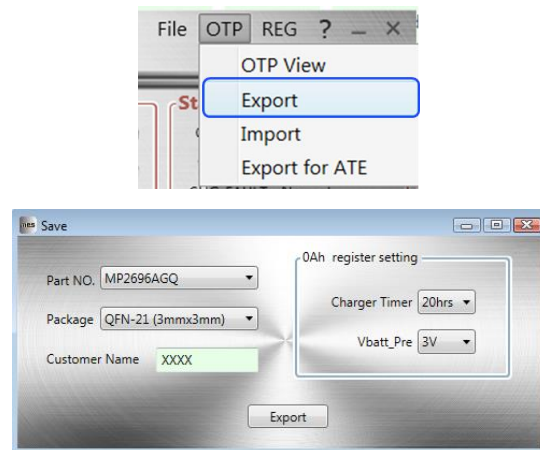

Figure 10: Exporting the Configuration
4. Select values from the drop-down menus. Ensure all the parameters are populated before selecting “Export” in the toolbar. Click “Export” to export the configuration (see Figure 10).